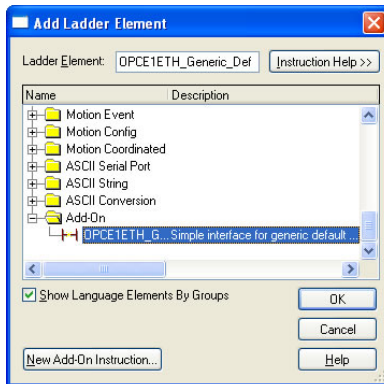

Figure 92: Add Generic Default AOI
- 8) Select the generic default I/O AOI in the Add-On folder. Refer to Figure 92.